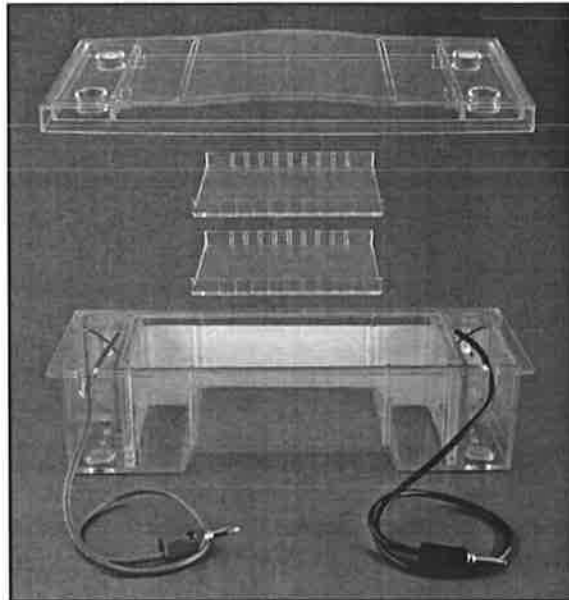

Figure 5
1. Make sure that the power supply to be used with the electrophoresis chamber, including power cord and patch cords, are away from any moisture. For safety, the apparatus (*Figure 5*) should be in a designated area of your laboratory, away from everyday activities.